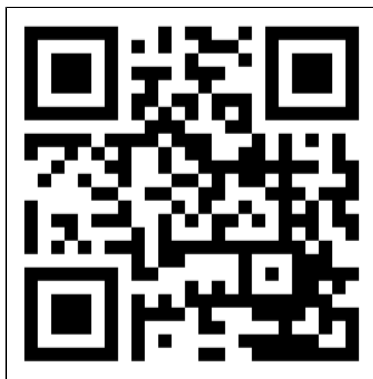

Figure 36.
1. Open the Eurom Smart App manual with the QR code (Figure 36) or go to www.eurom.nl/nl/manuals.